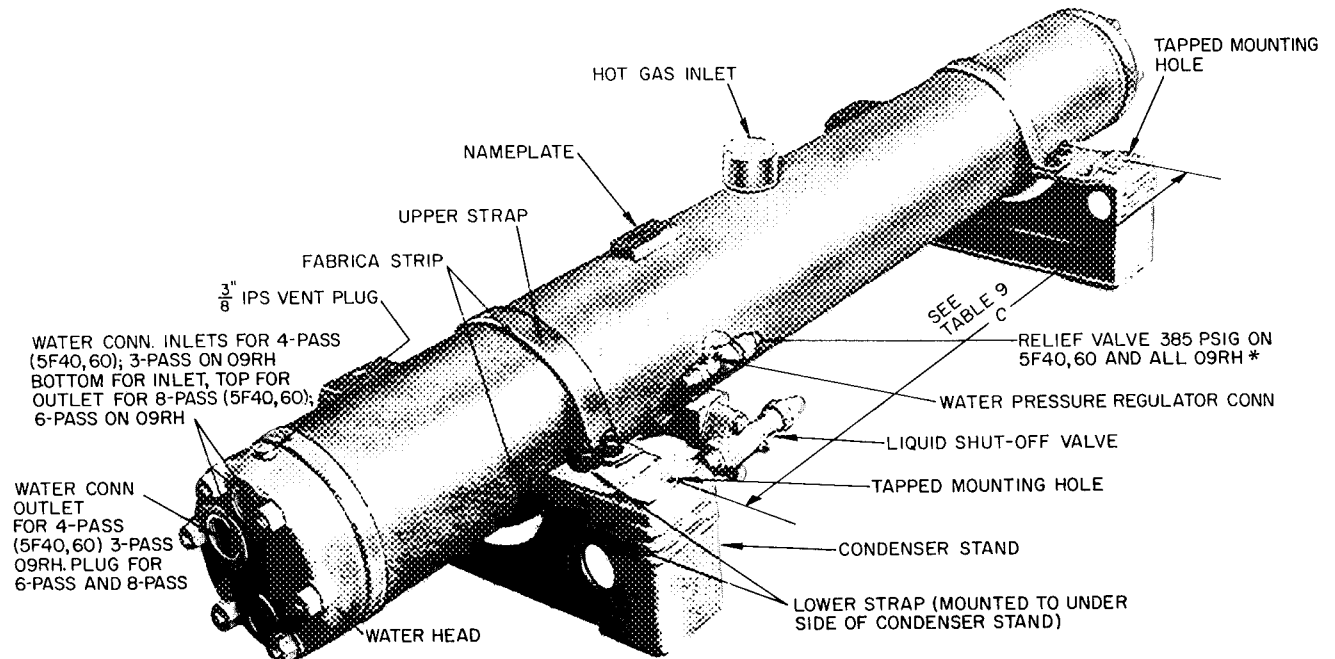

**Fig. 9 - Typical Vibration Isolator Mounting**
**Compressor on Steel Base and Vibration Isolators on Floor** - Install vibration isolators on one end of unit at a time. See Fig. 9 for typical vibration isolator mounting.
Position compressor and motor on frame and check height of vibration isolators. Shim between vibration isolators and floor to level compressor base. Secure vibration isolators to floor. If beveled washer (Fig. 9) is omitted, end of capscrew may strike the floor and cause vibration isolator to rupture when it is secured to floor.